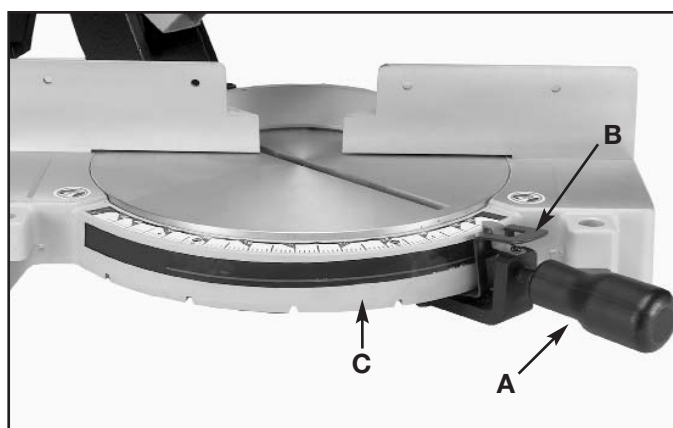

Fig. 3
1. Loosen table lock handle (A) Fig. 3 one or two turns and depress index lever (B) to release 45 degree positive stop.